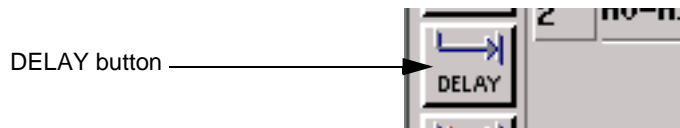

Figure 12. Delay Tool
- Click on the **DELAY** button shown in **Figure 12** and located at the left of the diagram window.